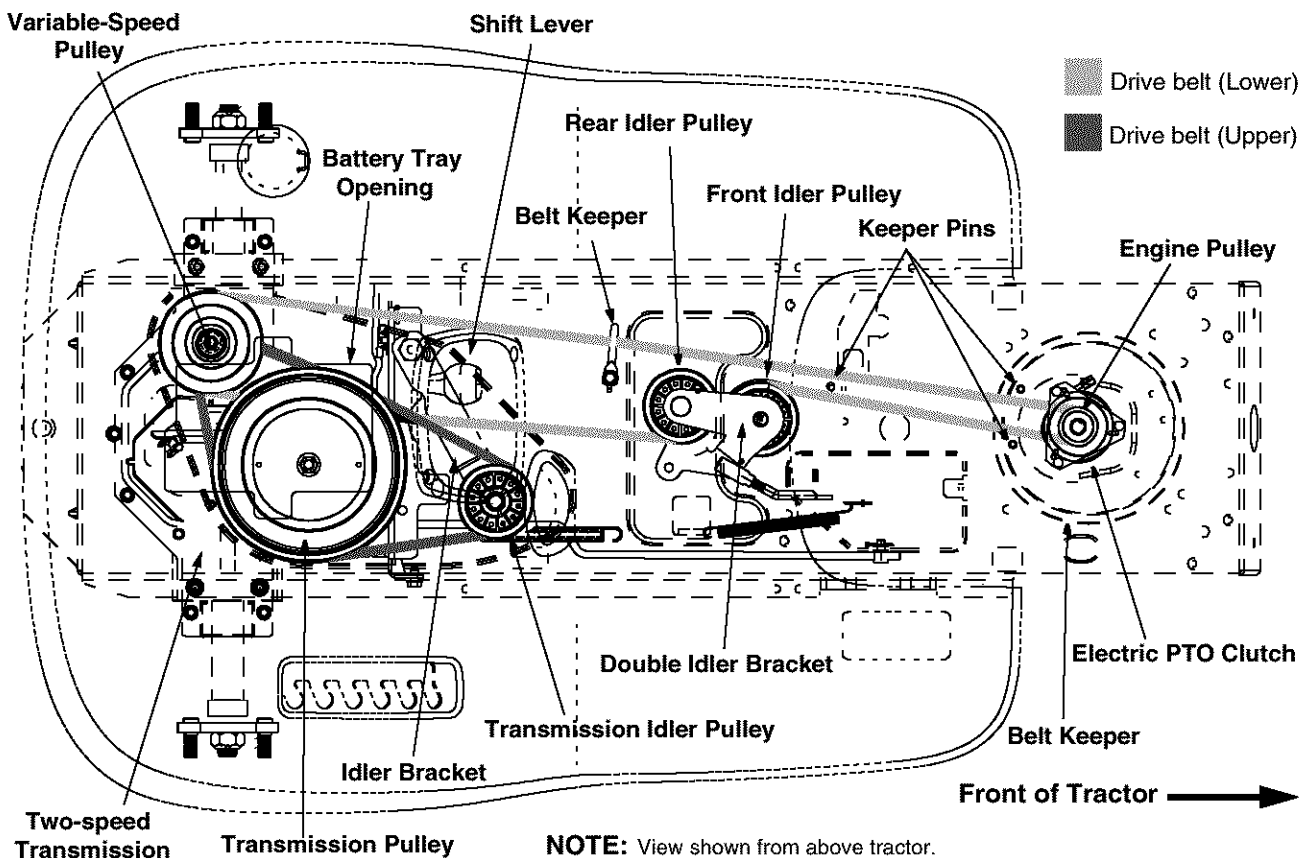

Figure 17
- According to your tractor model, route the new belts as shown in Figure 16 or Figure 17.
- Locate the transmission idler pulley on the upper drive belt by looking through the battery tray opening. See Figure 17.
- Reroute the new upper drive belt as shown in Figure 17.
- Locate the variable-speed pulley through the battery tray opening. See Figure 17.
- Remove rear idler pulley from the double-idler bracket while loosening the belt from around both the rear and the front idler pulleys. See Figure 17.
- Reroute the new belt around the pulleys, belt keepers and keeper pins exactly as the old one was routed. Refer to Figure 17.